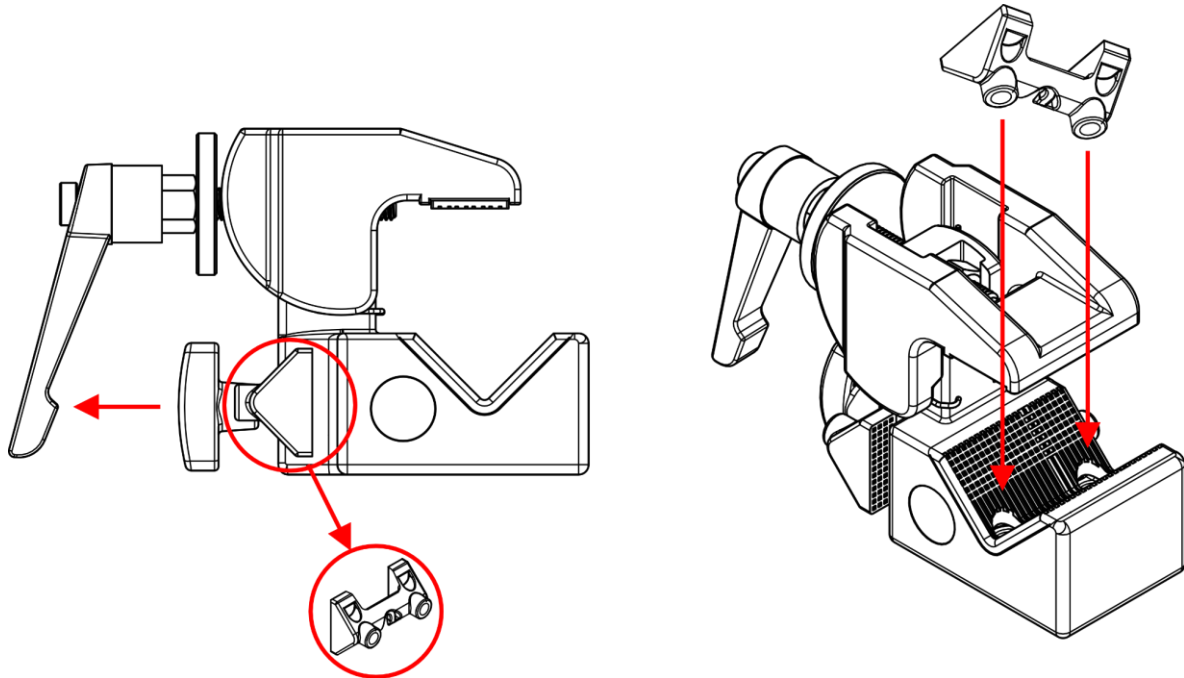

Fig. 06
- 01) Turn the **spigot mounting screw (05)** counterclockwise to remove it.
- 02) Remove the **wedge (04)** located under the **spigot mounting screw (05)**. See Fig. 06.
- 03) Insert the **wedge (04)** into the mounting holes on the device. See Fig. 06.